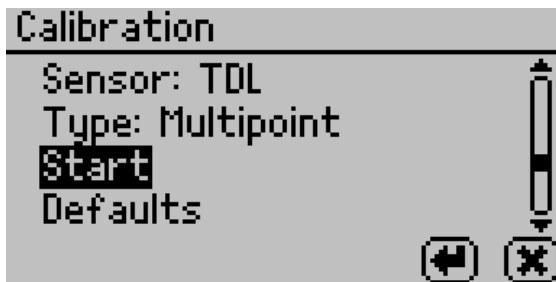

Figure 52 TDL sensor calibration screen
3. Select **Ca l i b r a t i o n** from the Configuration tab (Figure 52).